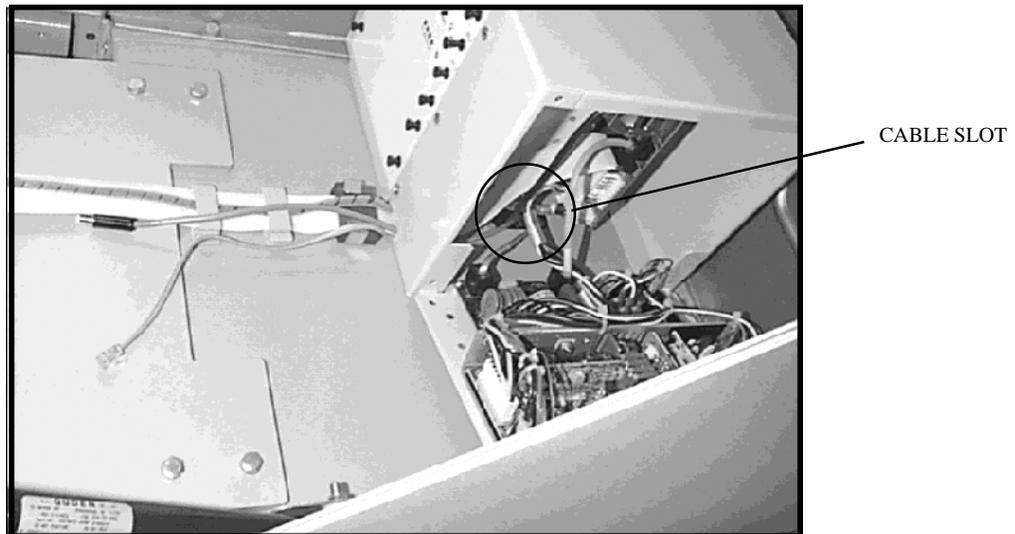

FIGURE 4-13
28. From the bottom compartment of the terminal, lead the cables up through the oval slot under the card cage. Then guide the cables out through the opening in the bottom front of the card cage. (See Figure 4-13.)